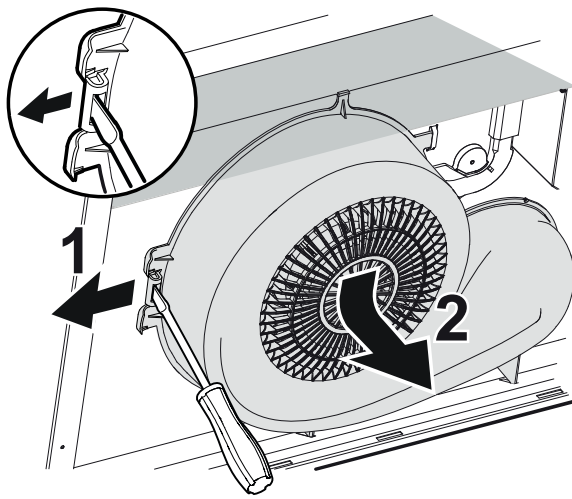

Fig. 4
Release the blower by bending the snap retainers outwards in the direction of the arrow (1) and pushing the blower away from you and down (2), Fig. 4.